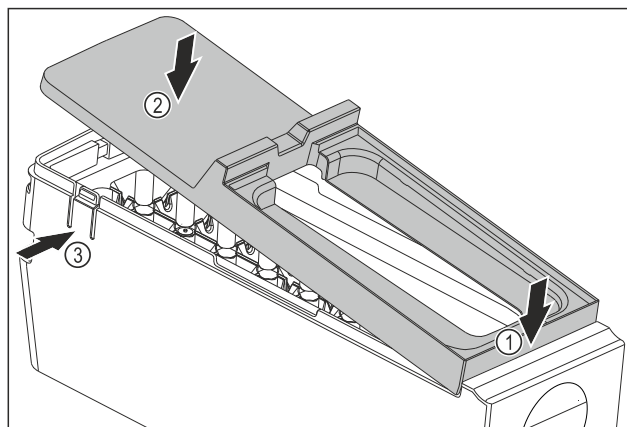

Fig. 71
- Installing the EasyTwist-Ice body cover: Place the cover on the front. Fig. 71 (1)
- Lower the cover at the rear. Fig. 71 (2)
- ▷ The cover locks into both tabs Fig. 71 (3) audibly.